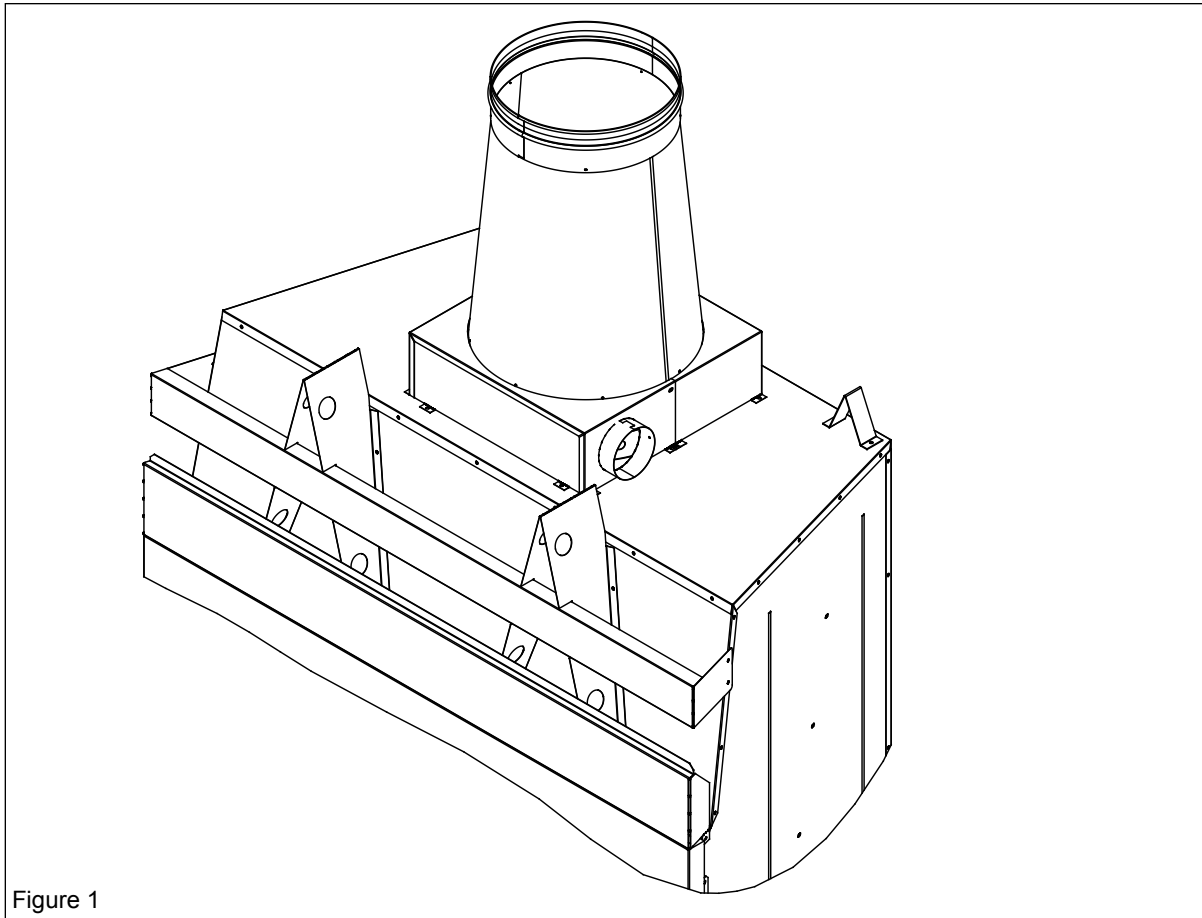

Figure 1
- a. Once the chimney pipe is installed, place the box on top of the fireplace around the chimney pipe and attach the two halves of the CAK together. See Figure 1.